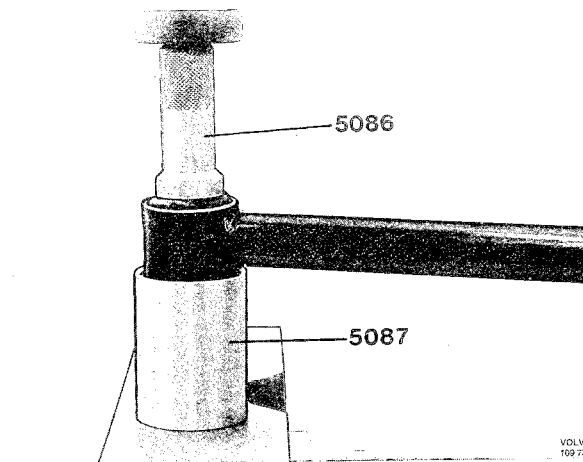

**Fig. 7-18. Press tool for pressing in bushing**
12. Position the bushing in the bracket from the inside. At the same time position drift "A" (2, Fig. 7-18) and nut (3).
13. Pull the bushing into place in the bracket, using the nut (3), Fig. 7-18.